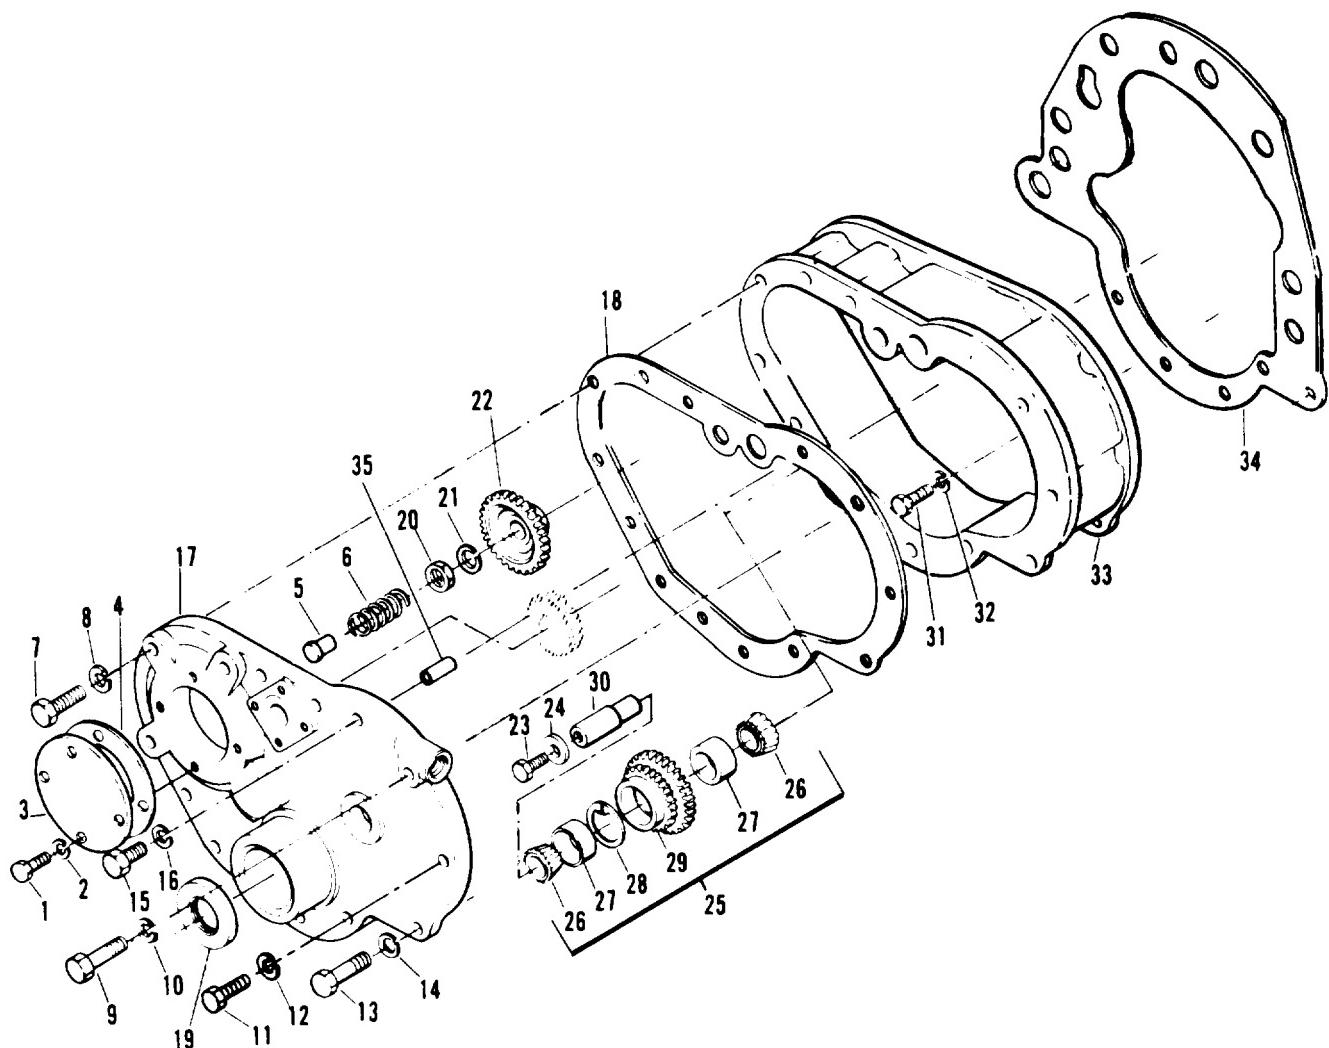

Figure 3-44. Timing Gears and Cover, Exploded View
- (1) Remove the hydraulic pump assembly (paragraph 3-41).
- (2) Remove the fuel injector nozzle from No. 1 cylinder.
- (3) Turn the engine over until the 20 degree before top dead center (BDC) mark on the engine flywheel is aligned with the timing mark on the flywheel housing and No. 1 cylinder is on compression stroke.
- (4) Remove the front engine support (paragraph 3-49).
- (5) Remove screws (1, figure 3-44) and lockwashers (2) to remove fuel pump thrust plate (3), gasket (4), thrust button (5) and spring (6). Discard gasket.
- (6) Remove screws (7, 9, 11, and 13), screws (15), and lockwashers (8, 10, 12, 14, and 16) to remove timing gear cover (17) and gasket (18). Discard gasket.
- (7) Press seal (19) from cover and discard.
- (8) Remove nut (20) and lockwasher (21) to remove fuel pump drive gear (22).
- (9) Remove screw (23) and washer (34) to remove idler assembly (25).
(10) If inspection indicates that idler bearings must be replaced, disassemble idler as follows:
- (a) Remove bearings (26) and press races (27) from gear (29).
- (1) Using new gasket, install housing (33) and secure with lockwashers (32) and screws (31).
- (2) If shaft (30) was removed, press replacement into timing gear housing.
- (3) If bearings were replaced, assemble idler assembly as follows:
- (a) Install ring (28) into gear (29).
- (b) Press races (27) into gear until they seat against ring.
- (c) Install bearings (26).
- (4) Check that 20 degree (BDC) mark on flywheel is still aligned with timing mark on flywheel housing.
- (5) Install idler assembly and secure with washer (24) and screw (23). Torque idler shaft screw to 24-27 ft-lb.
- (6) Install fuel pump drive gear (22) insuring that the proper timing has been maintained (see paragraph 3-22). Secure gear with lockwasher (21) and nut (20). Torque drive gear nut to 35-40 ft-lb.
- (7) Press replacement seal (19, figure 3-44) into cover.